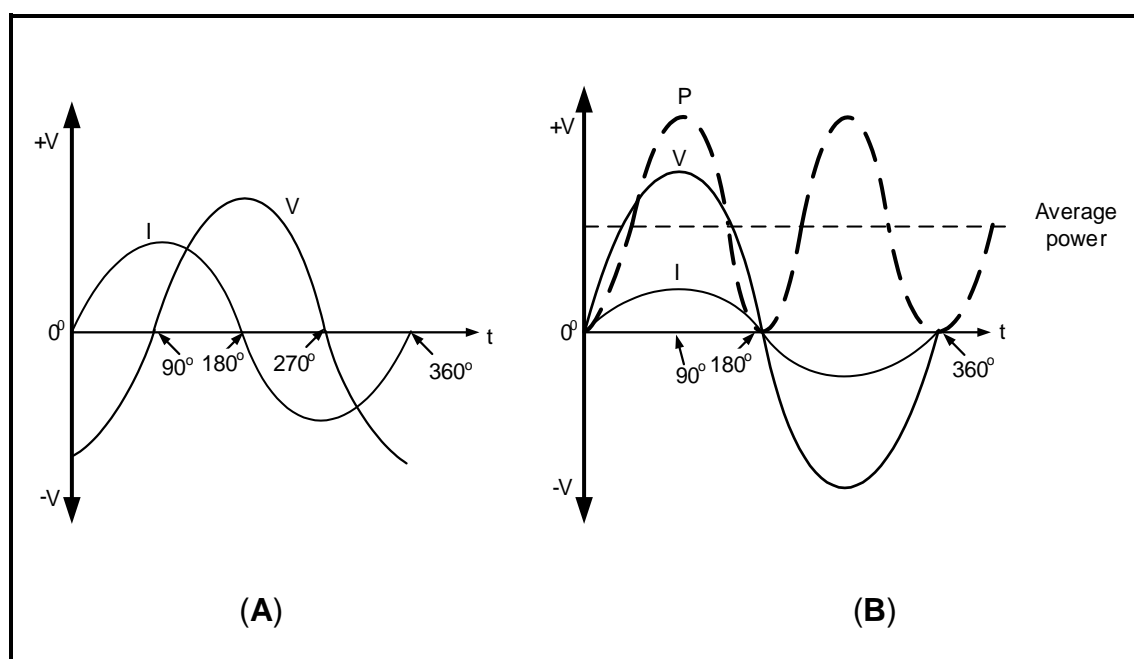

FIGURE 3.5: CURRENT, VOLTAGE AND POWER WAVEFORMS
3.5 Refer to FIGURE 3.5 below and answer the questions that follow.
- 3.5.1 State with a reason the type of component that produces the waveform in FIGURE 3.5 (A). (2)
- 3.5.2 Identify the component across which power is dissipated in FIGURE 3.5 (B). Motivate your answer. (2)